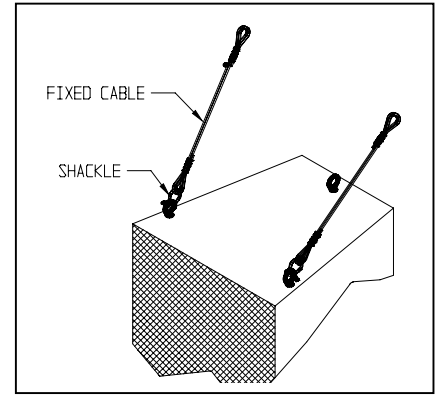
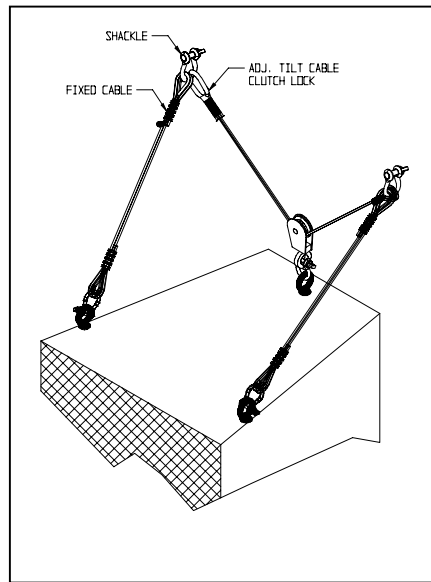
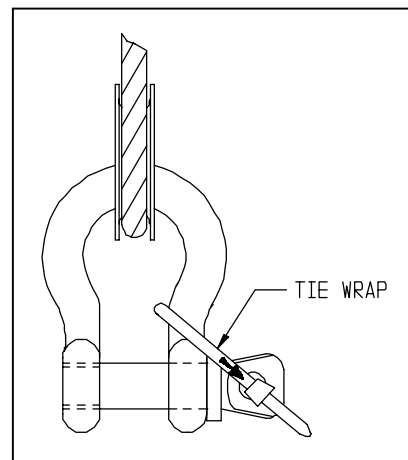

Figure 5
Figure 6
Figure 8
Attach eyebolts, fly track or required other attachments to the speaker cabinet (Figure 5). If using the optional Adjustable Tilt Cable Kit, see *Adjustable Tilt Cable Kit data sheet for kit selection, methods of attachment and aiming.*
Identify the fixed cables from the selected Adjustable Tilt Cable Kit (Ordered separately). Attach one (1) fixed cable to each front attachment point of the speaker using the 5/16" shackles (Figure 5). Secure the screw pin to the shackle using the included cable tie to prevent the pin from rotating out (Figure 8).
Capture the eye of the pulley of the adjustable tilt cable kit to the back attachment point of the speaker using the 1/4" shackle (Figure 6). Secure the pin to the shackle using the included cable tie to prevent the pin from rotating out (Figure 8).
Using a 5/6" shackle, attach the clutch lock eye of the adjustable cable and one fixed cable to one eyebolt of the cross arm. Attach the other end of the adjustable cable and the other fixed cable to the other cross arm eyebolt with a 5/16" shackle (Figure 6). Fully tighten shackle pins and secure with the included tie wraps (Figure 8).